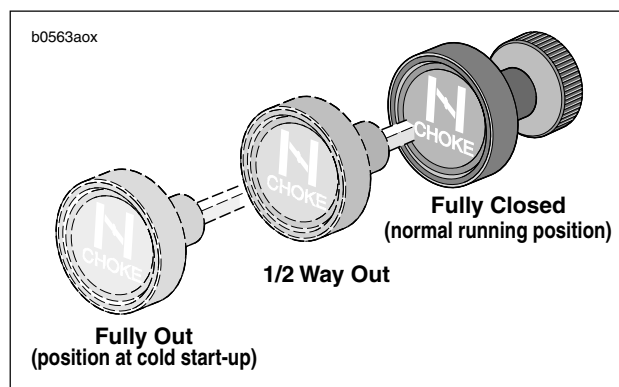

Figure 4-2. Enrichener Knob Positions
5. **BE SURE THROTTLE IS CLOSED.** See Figure 4-2. Pull enrichener knob to full out position.
1. See Figure 4-2. After initial 15-30 second warm-up, ride for 3 minutes or 2 miles (3.2 km) with enrichener knob in full out position.
1. See Figure 4-2. After initial 15-30 second warm-up, ride for 1 minute or 1/2 mile (0.8 km) with enrichener knob in full out position.